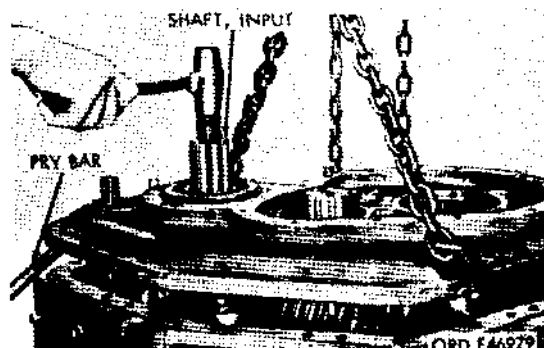

Figure 220. Lifting front cover from case
- (e) Fasten chain hoist to cover and lift off from case. Tap lightly on end of input shaft (fig. 220) with lead hammer to free bearing from shaft, and use pry bar on cover to assist in removing. Discard gasket.